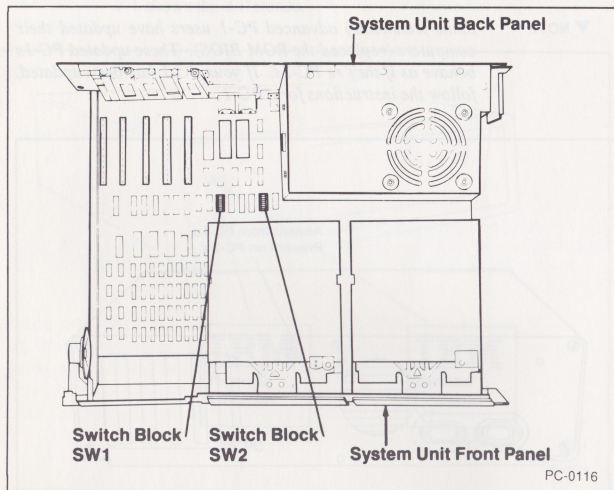

Figure 7-3 Location of switch block SW2 in an IBM PC
- 4 Find your PC's system board. It's the large board at the bottom of the system unit. Now, find the switch block labeled SW2. Figure 7-3 shows its location.